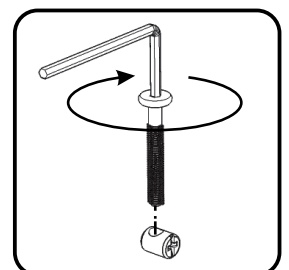

Figure 4
Attach Base (B) to unit with Cross Dowels, Head Cap Bolts (long) and Head Cap Bolts. (See Figure 4).